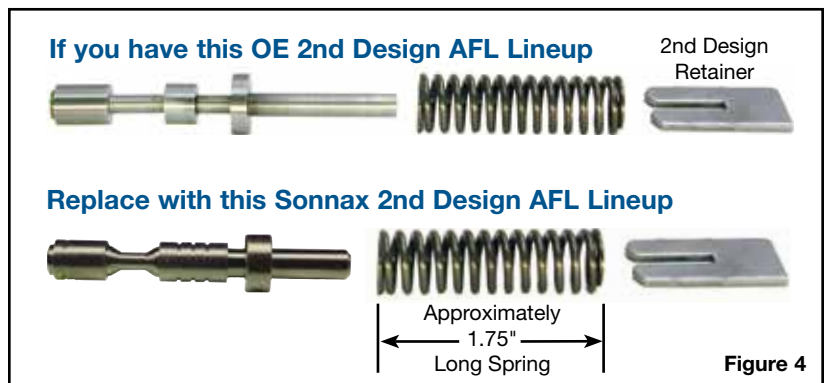

Figure 4
- c2. If 2nd OE design AFL lineup was originally installed, use Sonnax long spring (**Figure 4**).